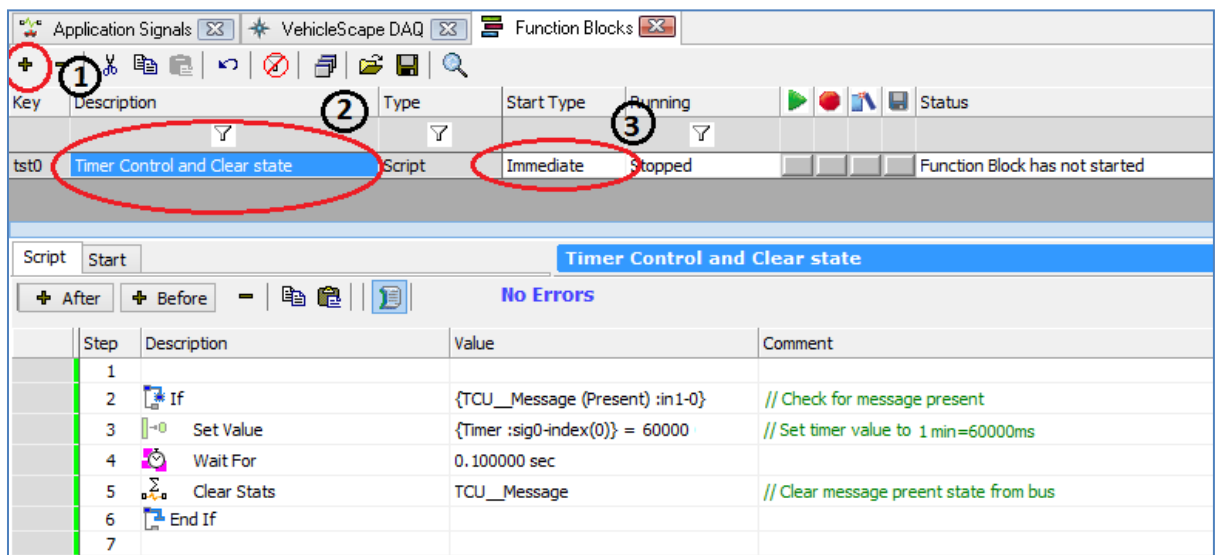

Figure 8: Function block script for Collection.
- Click on '+' option on left side (Fig. 8 (1)). Select 'script' option.
- It will create new function block. Write description in description box (Fig. 8 (2)).
- Make sure start type is Immediate (Fig. 8 (3)).